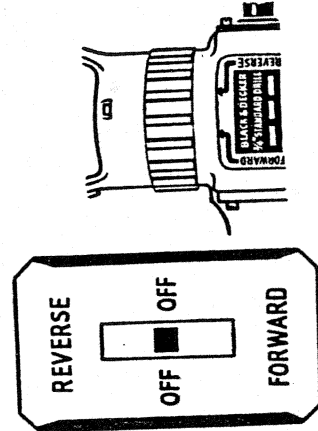

Fig. 11
7. Drill motor may be operated in either clockwise or counterclockwise motion. See Fig. 11 for forward and reverse switch position. Note: Do not use reversing switch until motor has stopped.